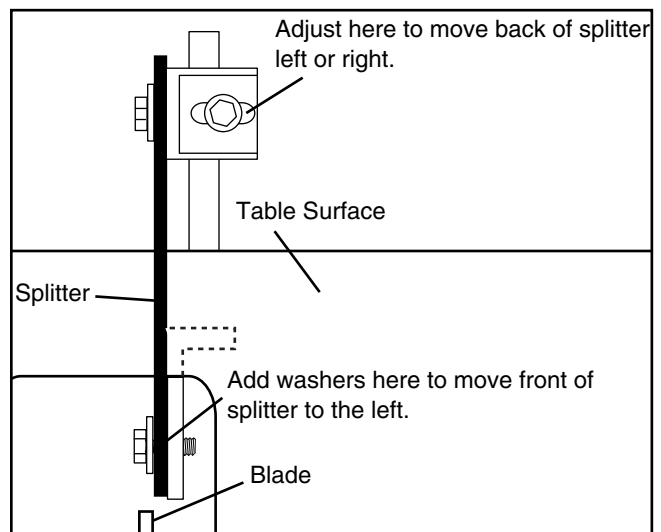
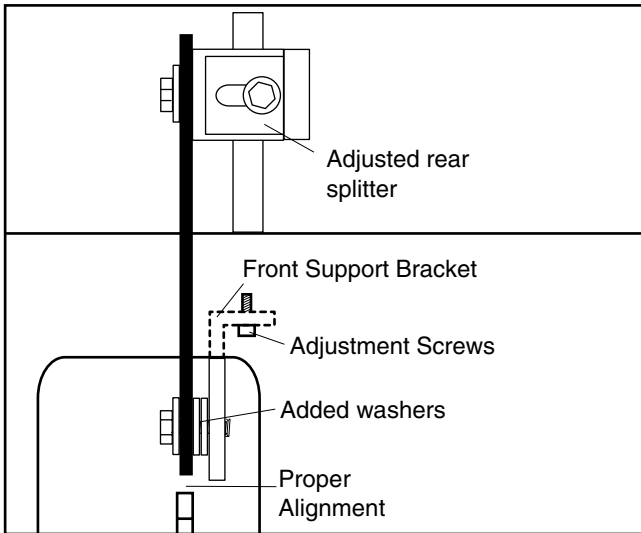

Figure 15. Improper splitter/blade alignment.
Figure 16. Proper splitter/blade alignment.
4. If the blade guard/splitter is to the right of the blade as shown in **Figure 15**, simply add washers between the splitter and front mounting bracket, and adjust the rear splitter support as shown in **Figure 16**.
6. If the splitter is positioned to the left of the blade, alignment cannot be achieved by washer placement. Adjustment of the front support bracket is required. See **Figure 16**. Loosen the (2) adjustment screws and move left or right.